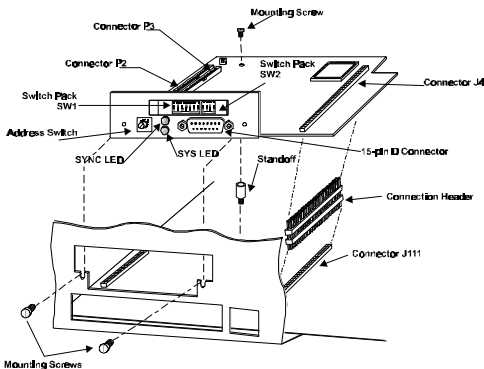

Figure 8 PCBA Installation
- 2** Connect MPI data cable connector P112 to J112 on the printer's Controller Board. This connector is keyed to prevent incorrect connection. (See **Figure 8**)
Use the third Phillips screw to mount the Multi-Platform PCBA to the standoff, installed earlier, located on the printer's mother board next to connector J111. (See **Figure 8**)